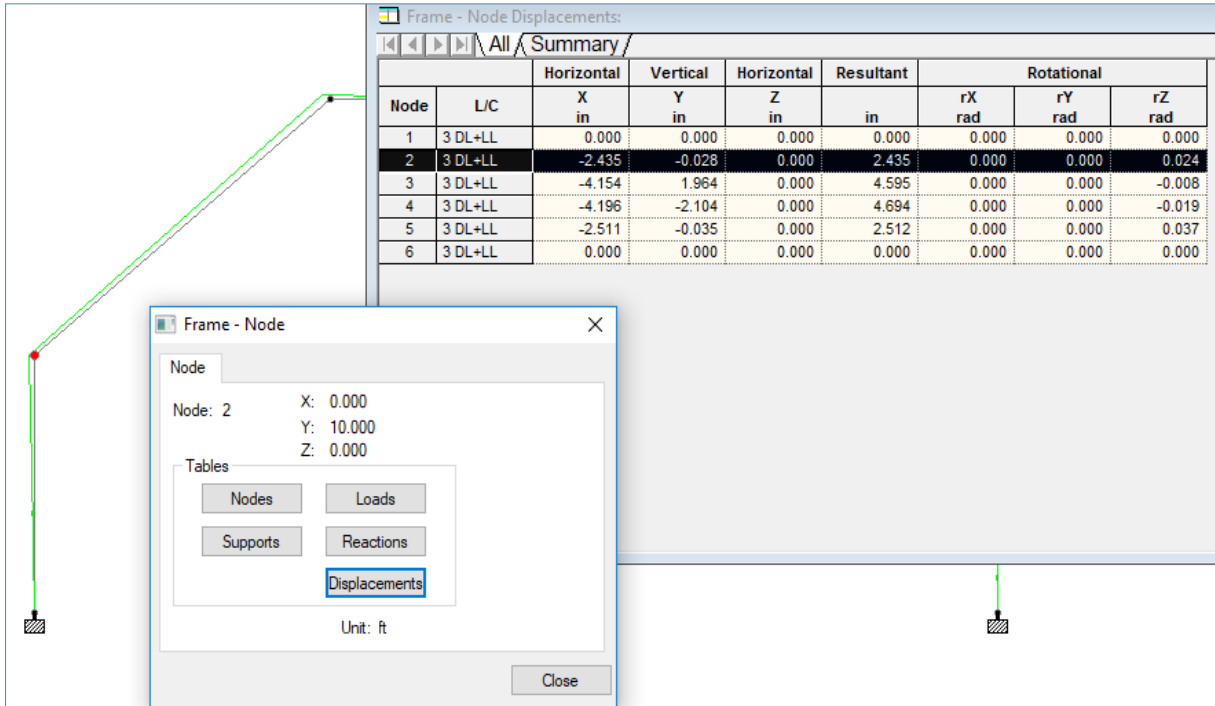

Fig: 3.16
- For Displacement (Deflection) of point go to Result (from Menu bar) → Deflection. use node cursor and Double click on the required point by using Node cursor → Displacements. Then get the Table for all Node Displacements. (Fig: 3.16)